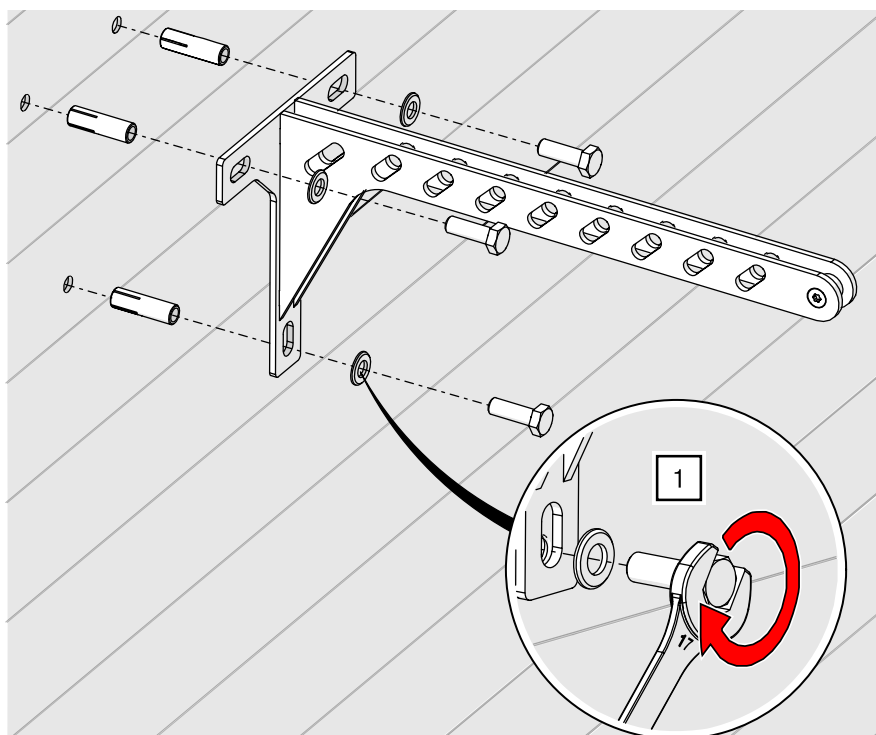

Fig. 55: Wall mount bracket – Mount on the wall
1. Fasten the wall mount bracket to the wall with mounting material suitable for the substrate (see Fig. 55).